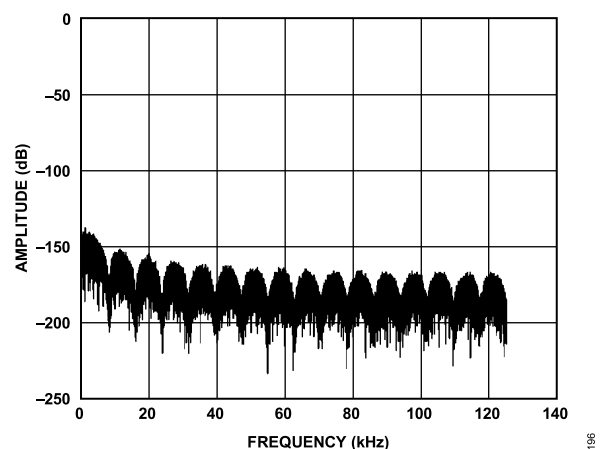

Figure 99. Example Filter Profile Upload
The following sequence programs a sinc1 filter. The coefficients in Address 0 to Address 23 = 0. The coefficients from Address 24 to Address 55 = 131,072 ($2^{22}/32$). When MCLK = 16.384 MHz and ODR = 256 kHz, the filter notch appears at 8 kHz and multiplies of 8 kHz. This filter provides low noise and is recognizable by the distinctive filter profile shown in Figure 99.
- Gather data. The resulting filter profile is shown in Figure 99.